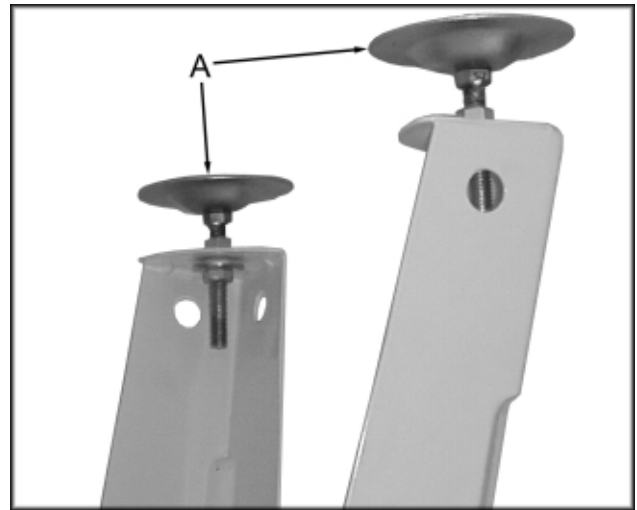

Fig. 2
- Attach the adjustable feet (A, Fig. 2) to the legs opposite of the motor, using the provided hardware.